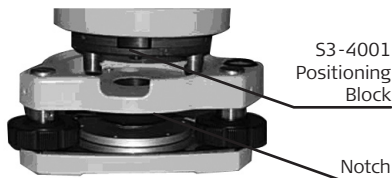

Fig. 6-6
1. Turn the knob S5-3004 counter-clockwise until it reaches the position limit ' '. Make the positioning block S3-4001 on the main body of the instrument is in line with the notch on the base and install the main body onto the base (as shown in Fig.6-6).